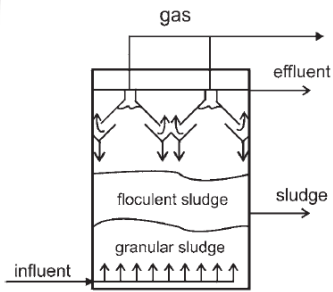

Fig. 8.6
- In the upflow anaerobic sludge blanket (UASB) type of reactor, the gas/solid/liquid separation system is integrated into the vessel (Fig. 8.6).